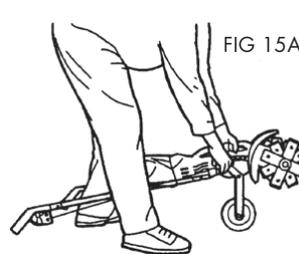

FIG 15A
3. Adjust tine depth (Fig. 15A or 15B). Try the third hole closest to operator.